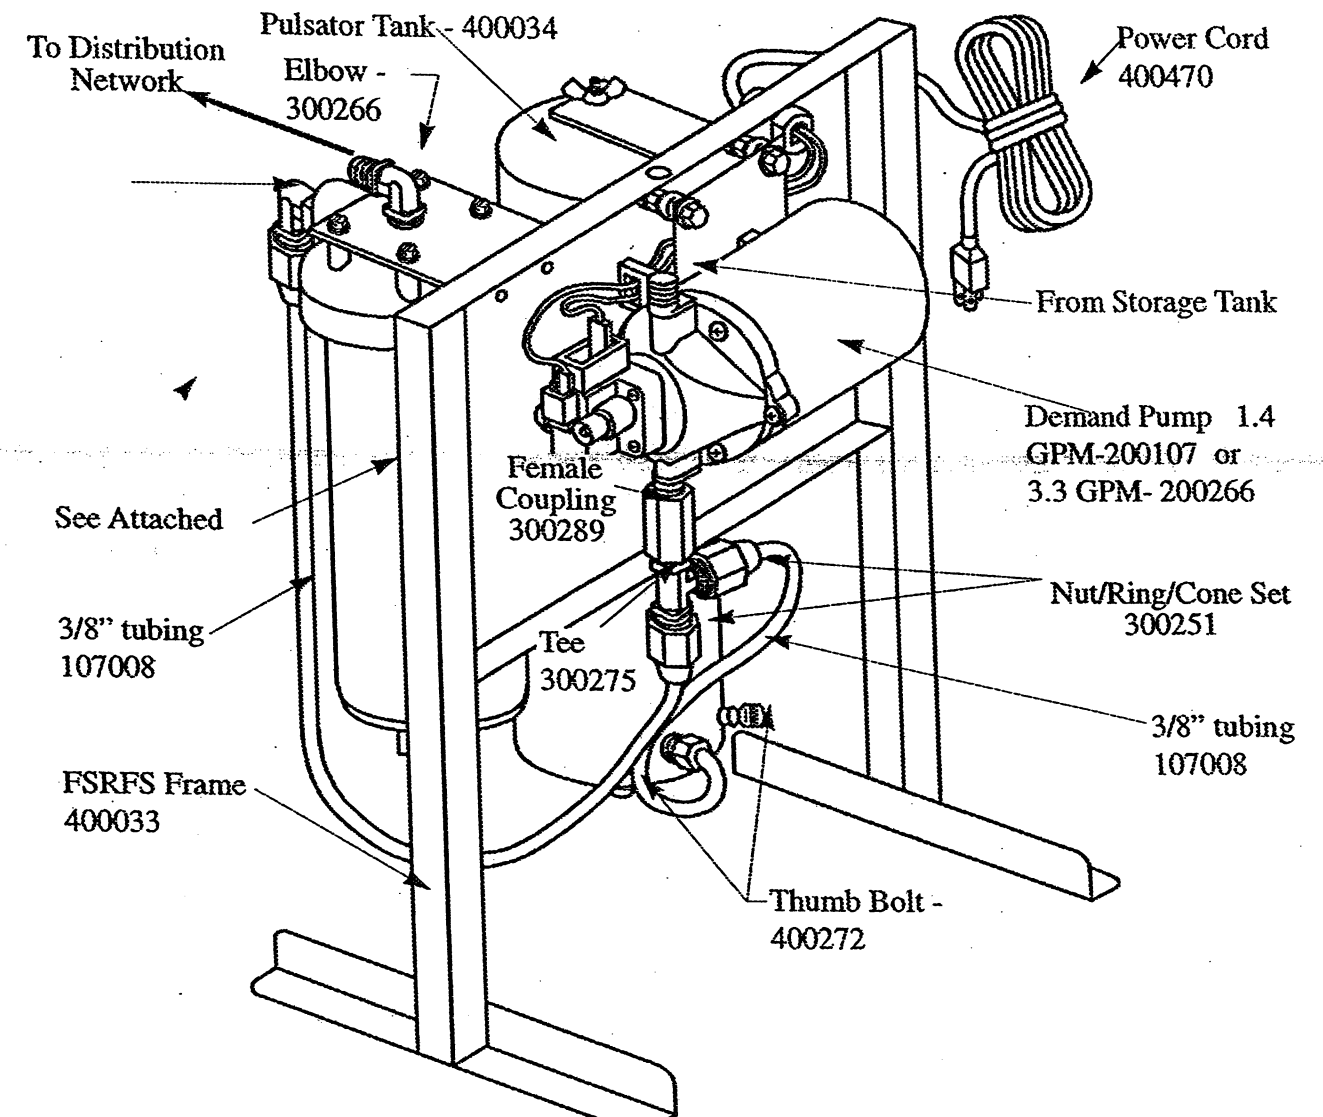

Figure 1. Free Standing Remote Faucet System (FSRFS)
5. The remaining end of the 3' tubing is connected to the top fitting of the pump with a QBFNCR-1 fitting, see Figure 1. The assembly of the QBFNCR-1 fitting is shown in Figure 2.